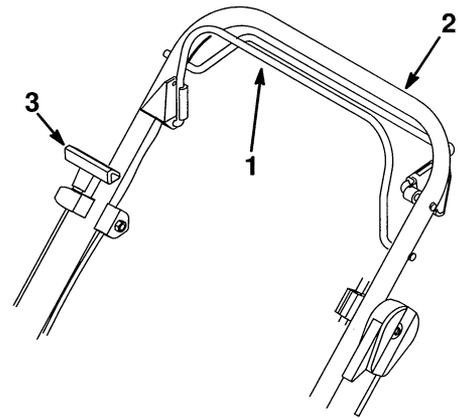

Figure 35
- Hold blade control bail against upper handle (Fig. 35) and pull starter rope several times to blow out loose carbon.